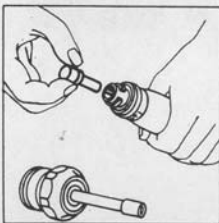

fig. 3
8. To exchange drive inserts, push out unwanted insert with Allen wrench from base end. Push proper drive insert into tool with opening to receive fastener towards base (see fig. 3).